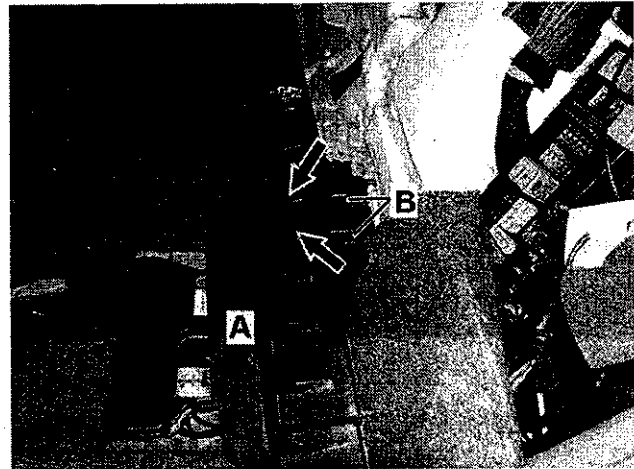

Figure 8
- When reinstalling frame rail cover (A, Figure 8) ensure that support ribs (arrows) on inside of frame rail cover align with slots (B) on top of newly installed control module bracket.